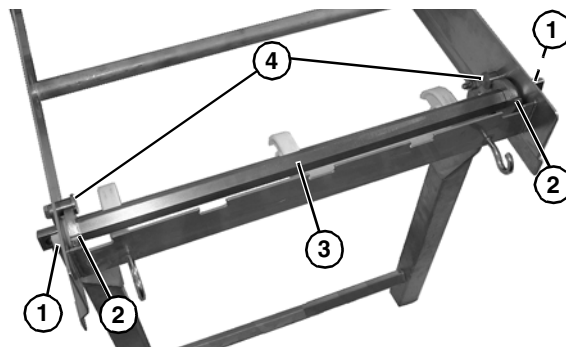

Figure 17
- Slide the tip up sleeves (**Figure 17, item 1**) and stop keys (**Figure 17, item 2**) outward on hex shaft assembly (**Figure 17, item 3**) until the sleeves seat in the holes of the frame and stop keys are seated against frame stops (**Figure 17, item 4**).